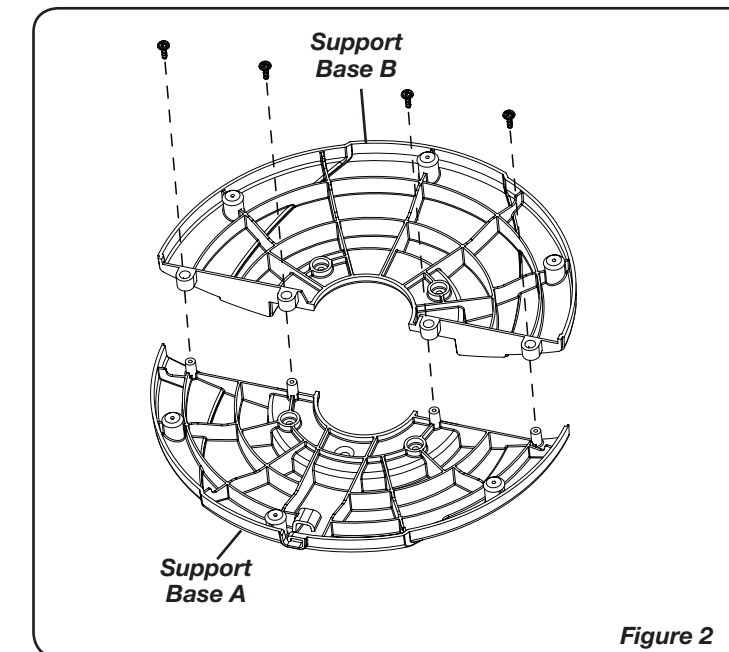

Figure 2
3. Secure (4) #8 X 1/2" Screws into the holes in the bottom of the Base as shown. (Figure 2)